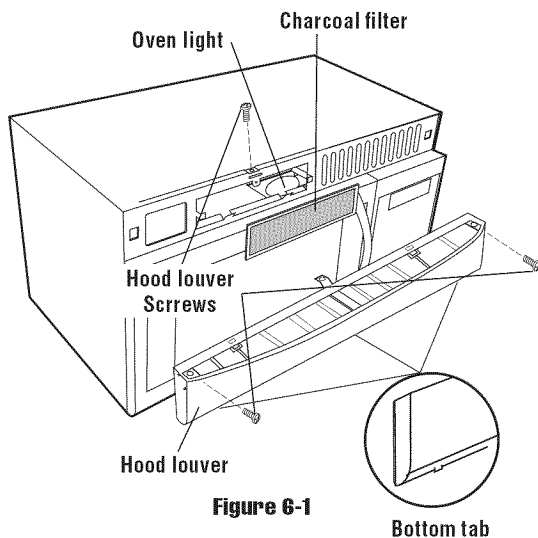

Figure 6-1
3. Charcoal Filter, which was installed in your microwave oven, is used for nonvented, recirculated installation. The Charcoal Filter should be replaced every 6 to 12 months, depending on use. Remove three Hood Louver screws. Tilt the Hood louver downward then pull it out so bottom tabs become unlocked. Pull the Charcoal Filter upward to remove from your oven. Attach the Charcoal Filter to the upper side of the oven by sliding into the tabs. See Figure 6-1, 6-2.